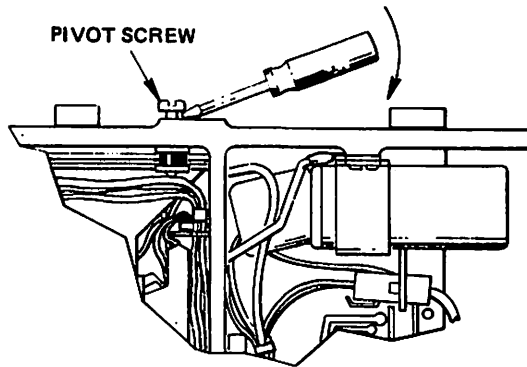

FIGURE 9 CARTRIDGE GUIDE REMOVAL
- b. Pull up on the upper pivot cap screw until the shoulder contacts the base casting. Push up on the cartridge guide until the lower pivot clears the casting. Reference Figure 9.